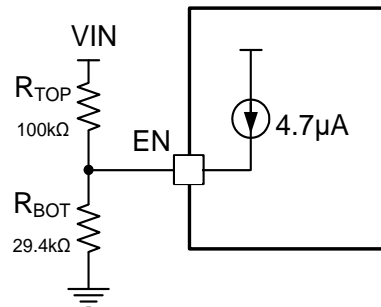

Figure 6: V_{IN} UVLO Program
The MPQ4214 features a programmable UVLO hysteresis. When powering up, EN sources a 4.7μA current out of the EN pin once the EN voltage exceeds 1.35V (see Figure 6). VIN must decrease to overcome the current source and stop switching after the IC starts. The VIN start and stop switching thresholds are determined with Equation (1) and Equation (2), respectively: